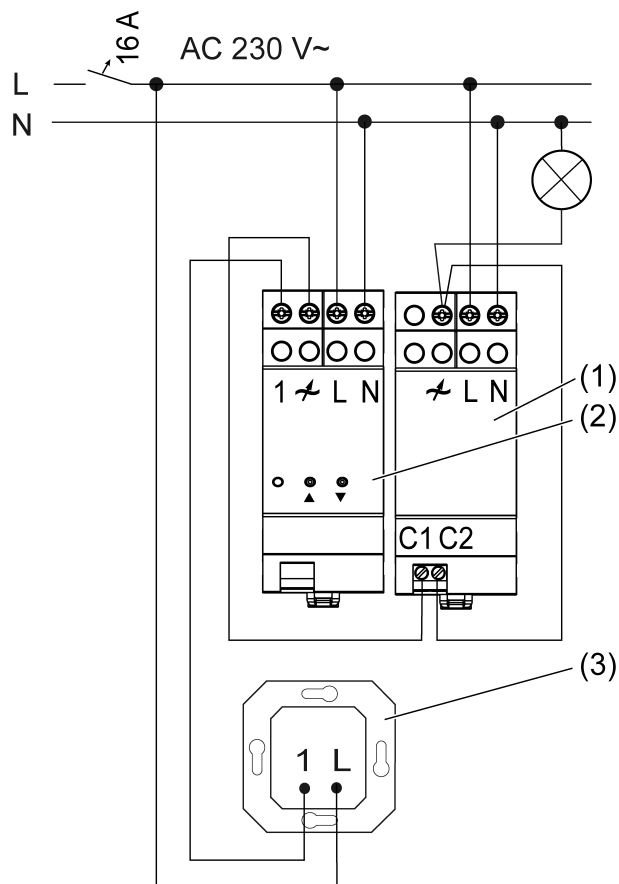
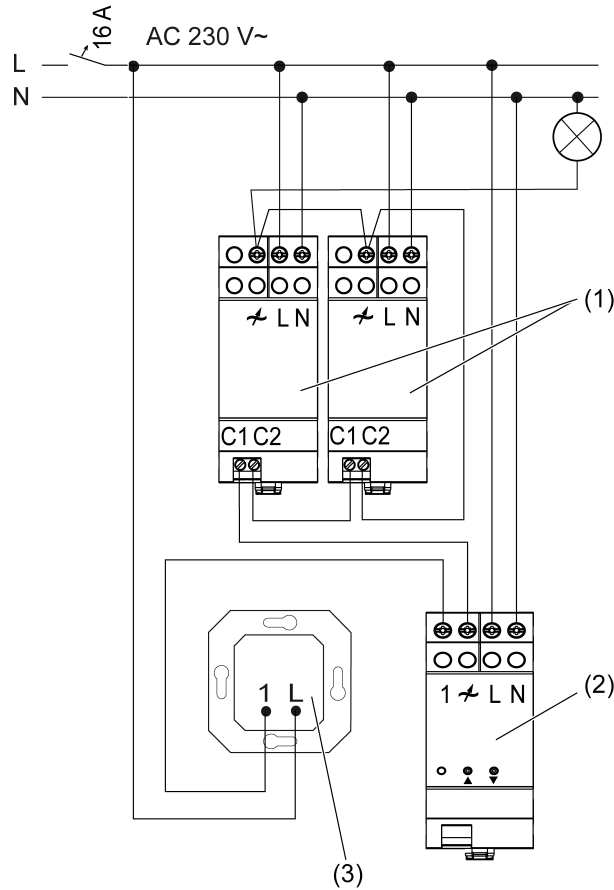

Figure 1: Connection example with a power booster
Figure 2: Connection example with two power boosters
- Snap the power booster onto the DIN rail and connect according to the connection examples (dimmer with one power booster (Figure 1), dimmer with multiple power boosters (Figure 2)).